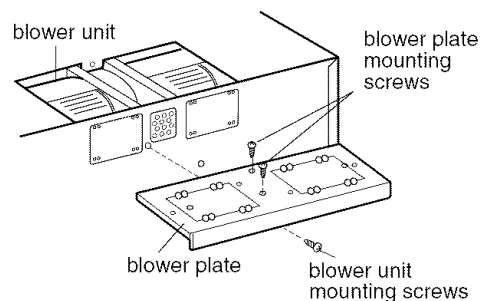

Figure 21
6. Reattach blower plate to microwave oven. Attach with the one blower unit mounting screw and then the two blower plate mounting screws. See **Figure 21**.